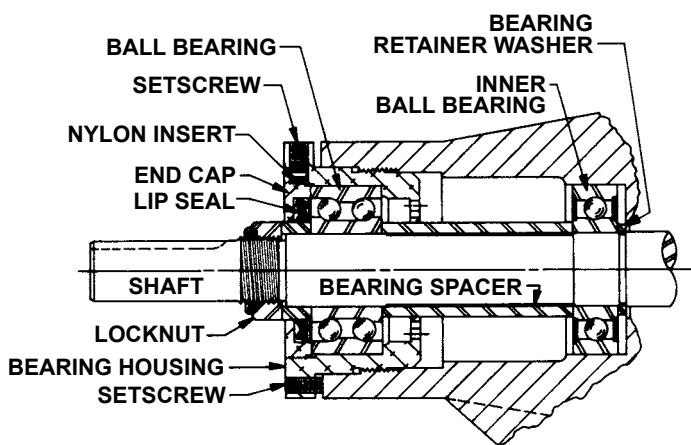

FIGURE 10
9. Remove the bearing spacer from the shaft for AS, AK and AL size pumps. See Figure 10.
13. Remove the bearing retainer washer from the AS, AK or AL size pumps. **See figure 10.**
16. The AS, AK and AL thrust bearing assembly has an end cap and lip seal that can be removed after loosening two set screws in flange of bearing housing. Remove ball bearing. **See figure 10.**
NOTE: AS, AK and AL size pumps do not have a snap ring, a bearing retainer washer must be assembled over end of shaft before the bearing is assembled. **See figure 10**.
14. Place bearing spacer over shaft and against single row ball bearing in casing (AS, AK and AL size pumps). **See figure 10**.